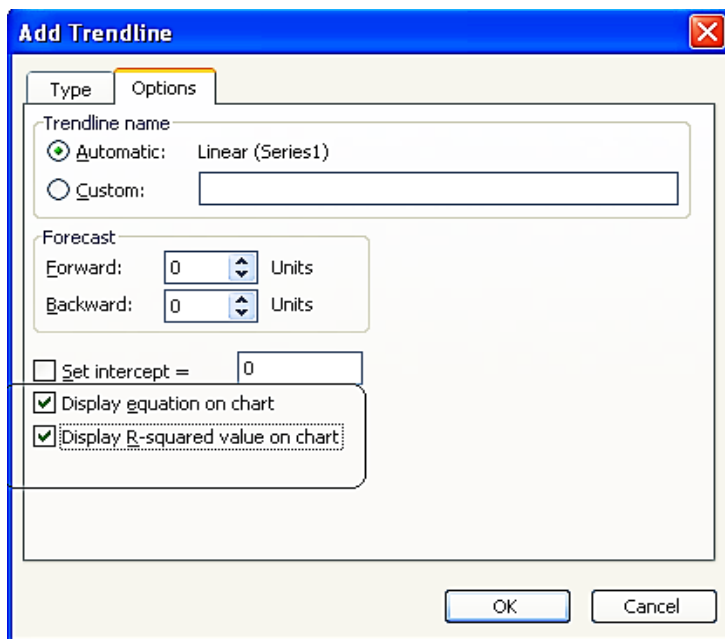

Figure 15
- 4- Click on the "Options tab" (**Fig. 15**). Put a check on "Display equation on chart" and "Display R-squared value on chart" boxes. Click OK when done.